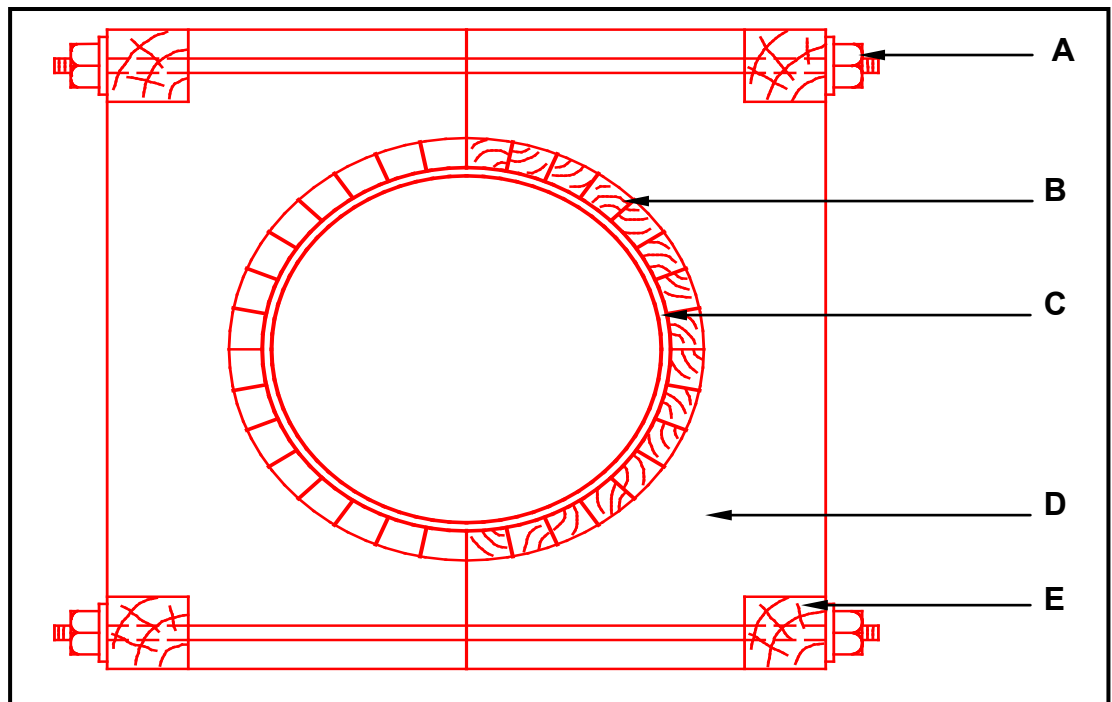

FIGURE 2.11
2.11 FIGURE 2.11 below shows formwork for a round column.